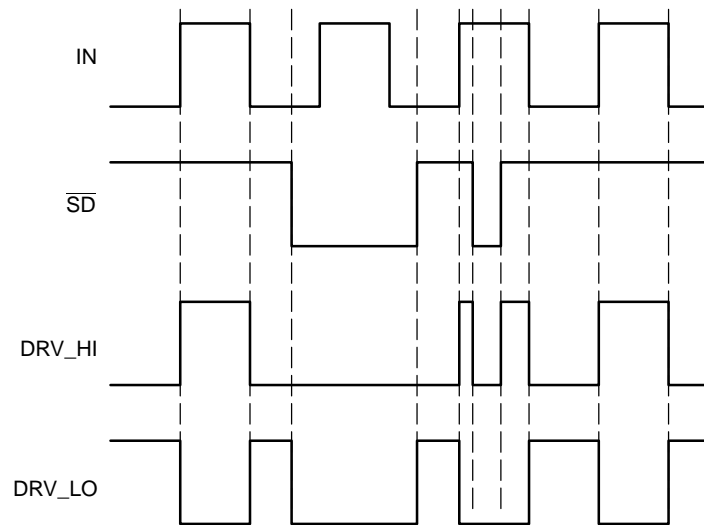

Figure 4. Input/Output Timing Diagram
- Timing diagram definition see: Figure 4, Figure 5 and Figure 6.